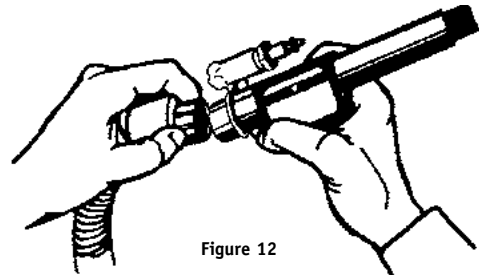

Figure 12
3. Firmly tighten hose connector by hand (see Figure 12).